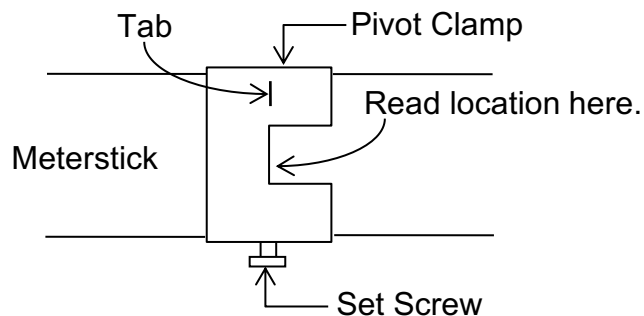

Fig. 1: How the pivot fits on the meterstick.
1. Using the meter stick, pivot stand and pivot, assemble a “see-saw” and adjust the pivot so that the meter stick alone balances horizontally. Position the pivot on the meter stick so the tabs of the pivot are toward the upper edge of the meter stick when the centimeter numbers are upright as shown in Fig. 1. This will allow the stick to balance easily and allow you to read the positions on the meter stick.